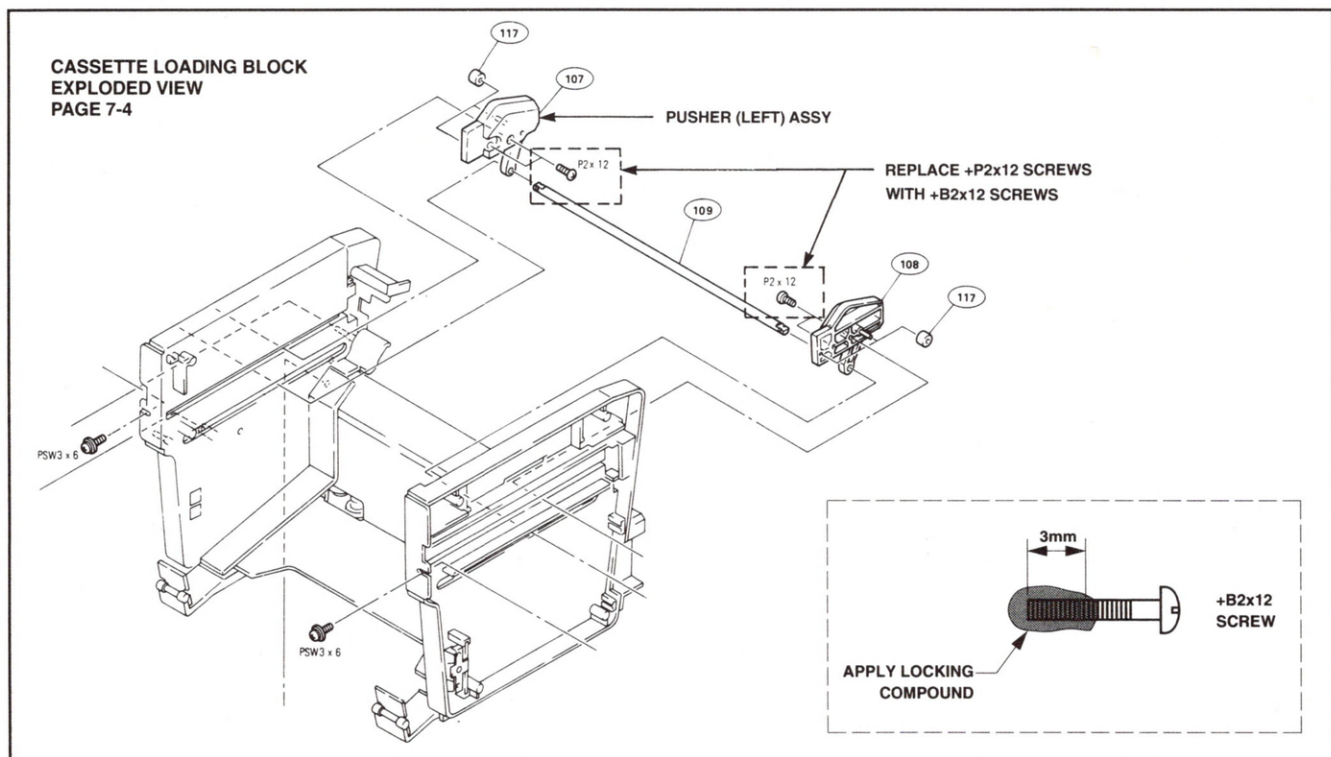

Figure 1
1. Apply locking compound to new +B2x12 screws as shown in Figure 1.